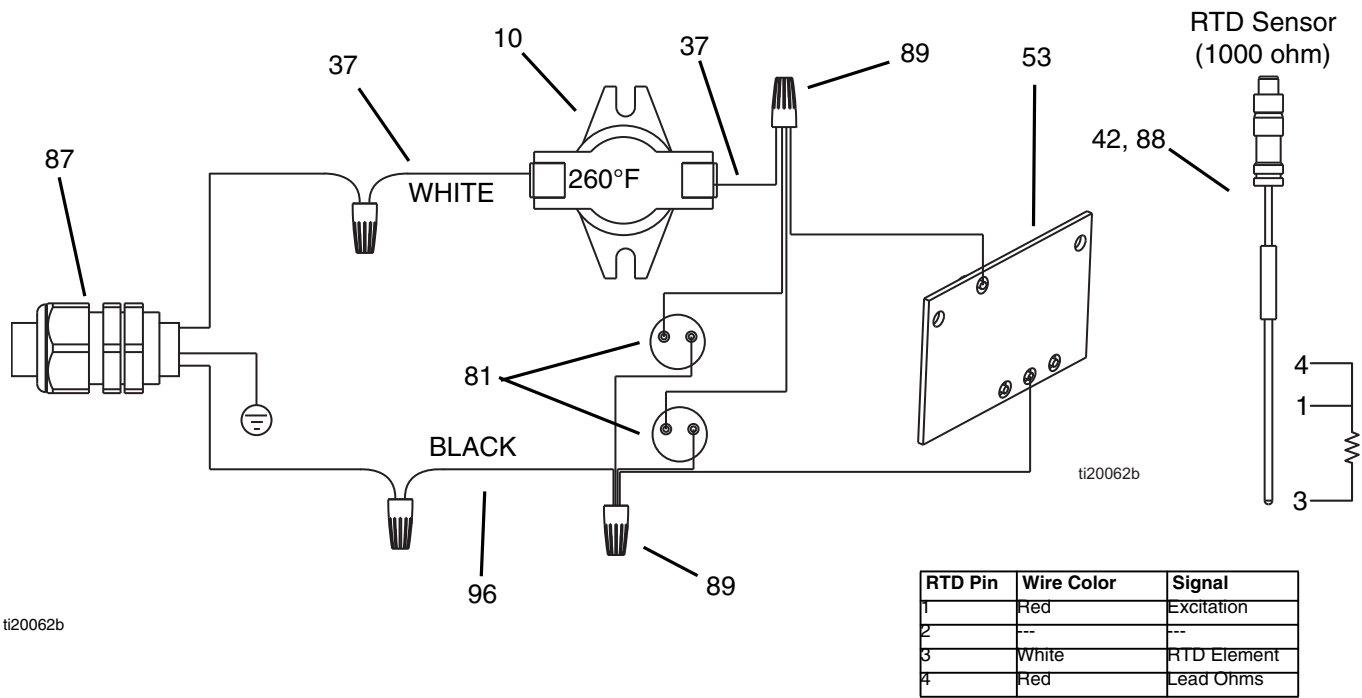
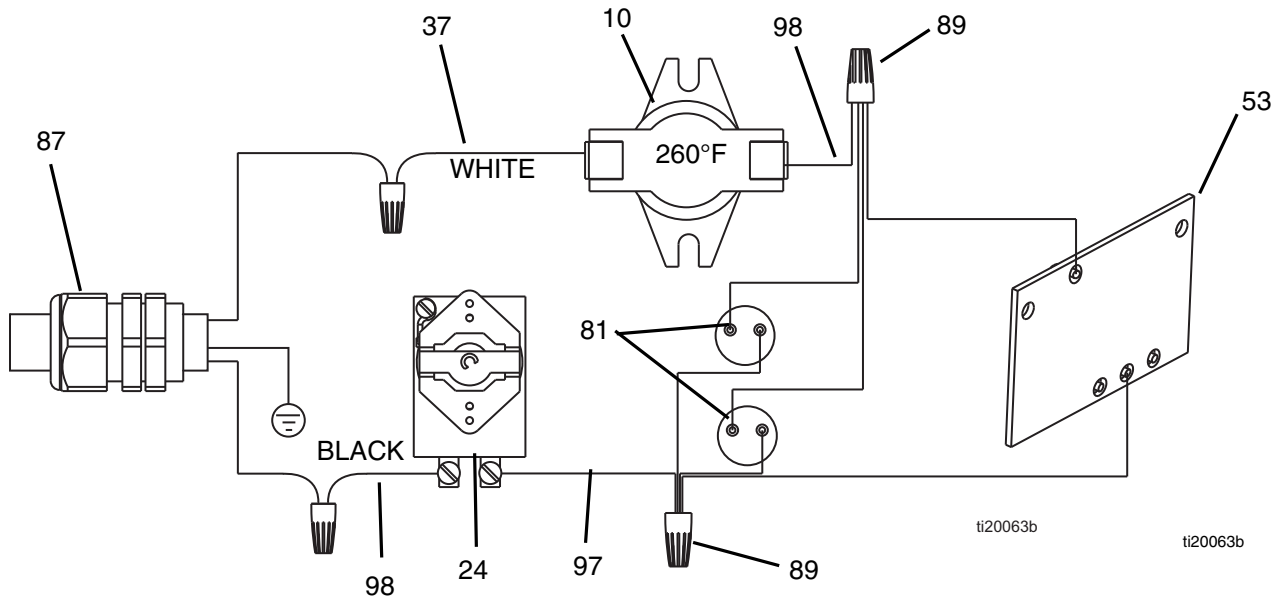

FIG. 9: Electrical Schematic - 262853, 24W612 Heater with RTD
FIG. 10: Electrical Schematic - 24P016, 24W248 Heater with Thermostat
- Refer to FIG. 10 or FIG. 9 for wiring connections.
- Make sure gasket (47) is installed and aligned with electrical housing screw holes.
- Secure cover (18) with screws (52). Torque screws to 89 in-lb (10 N•m).
4. Perform **Replace Heater Core and Unclog Fluid Passage** procedure on page 23. This includes removing the inlet housing (65).
5. With the inlet housing removed, remove 5 screws (52) and cover (18).
6. Disconnect wires from heater cartridges (81).
7. Remove pipe plug (95) and springs (31) from bottom of core (68).
9. Wire new cartridges per FIG. 9 or FIG. 10, page 19.